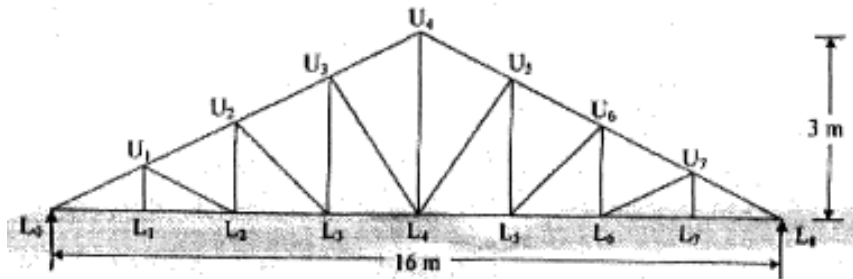

Fig. 6
6. Determine the panel point dead, live and wind load for the truss shown in Fig. 6 for an industrial building located in Mumbai. The coefficient of external (c_{pe}) and internal (c_{pi}) wind pressure are 0.6 and ± 0.2 respectively. The spacing of truss is 4 m. Also design member L_0L_1 , L_0U_1 and L_1U_1 .